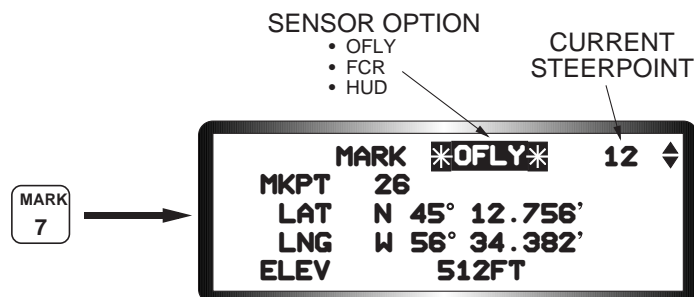

Figure 2-14 Markpoint DED Page
Overfly Markpoint. The pilot does an OFLY mark by flying over the desired point and pressing the MARK button (7) on the ICP (Figure 2-14). Assuming no other markpoints have been chosen, when MARK is pressed: